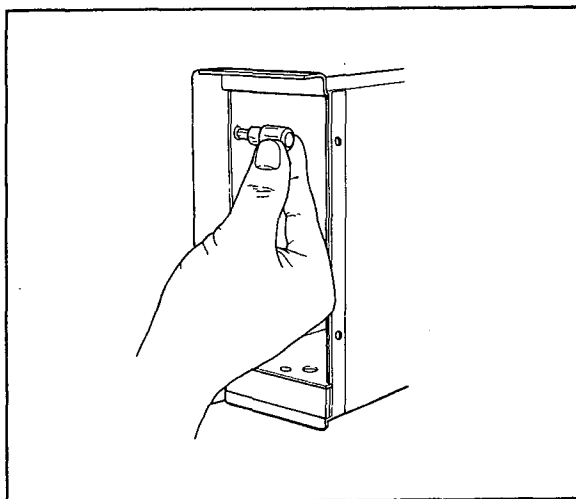

Figure 5-7. Mounting the Left Bezel.
- e. When all housings are installed, mount the left hand side bezel on the housing, using a stubby phillips screwdriver. See Figure 5-7.